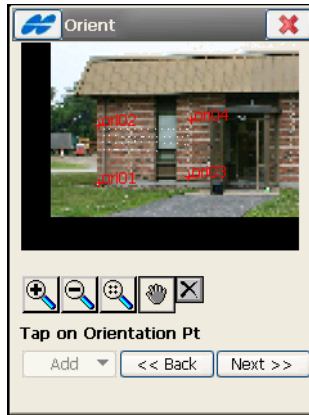

Figure 8-62. View Completed Scan Session
- Click the **View** button to open the **Orient** screen (Figure 8-62 on page 8-61). This screen displays the image, along with orientation and scanned points for completed scan sessions.